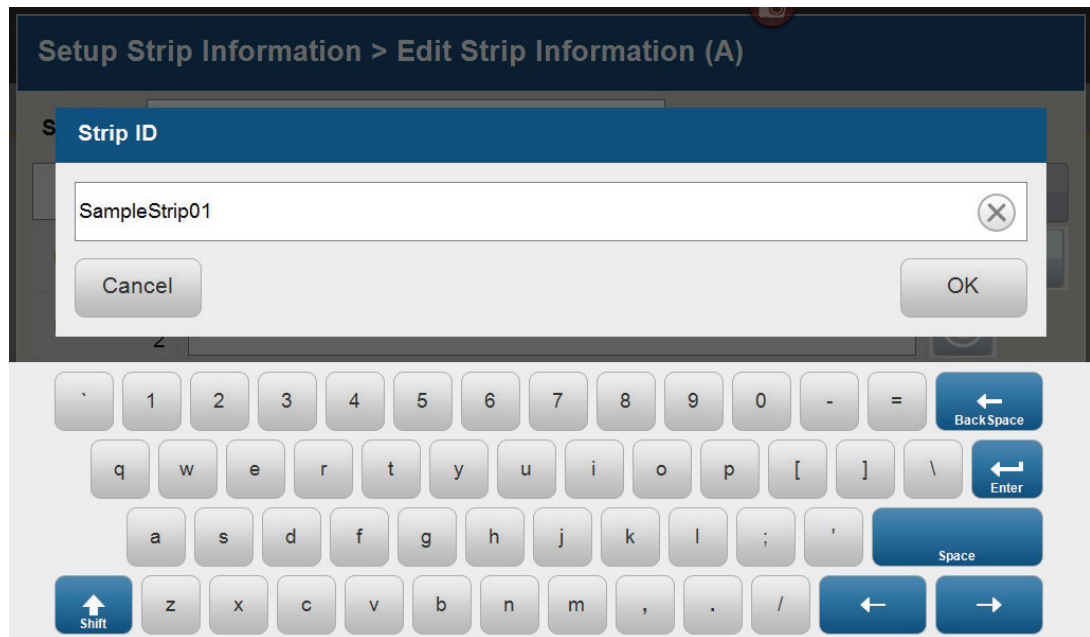

Figure 14. 'Set Strip ID' window.
3. The default Strip ID is date and time. It can be modified by selecting the Strip ID box. This opens the 'Set Strip ID' window and a keypad will become active on the touch screen (Figure 14). Alternatively, the Strip ID can be entered using a traditional keyboard if one is connected to the Spectrum Compact CE System. Enter the appropriate Strip ID, then select **OK** to exit and return to the 'Edit Strip Information' screen.